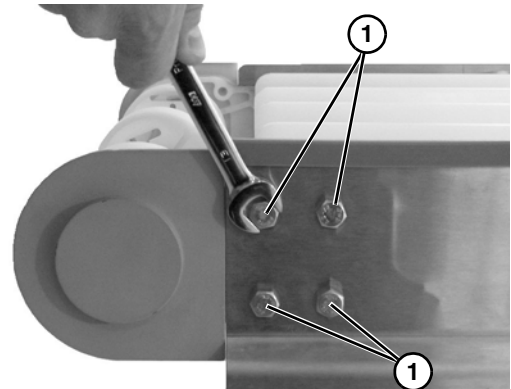

Figure 60
- Remove four head plate bolts (**Figure 60, item 1**). Repeat on opposite side.